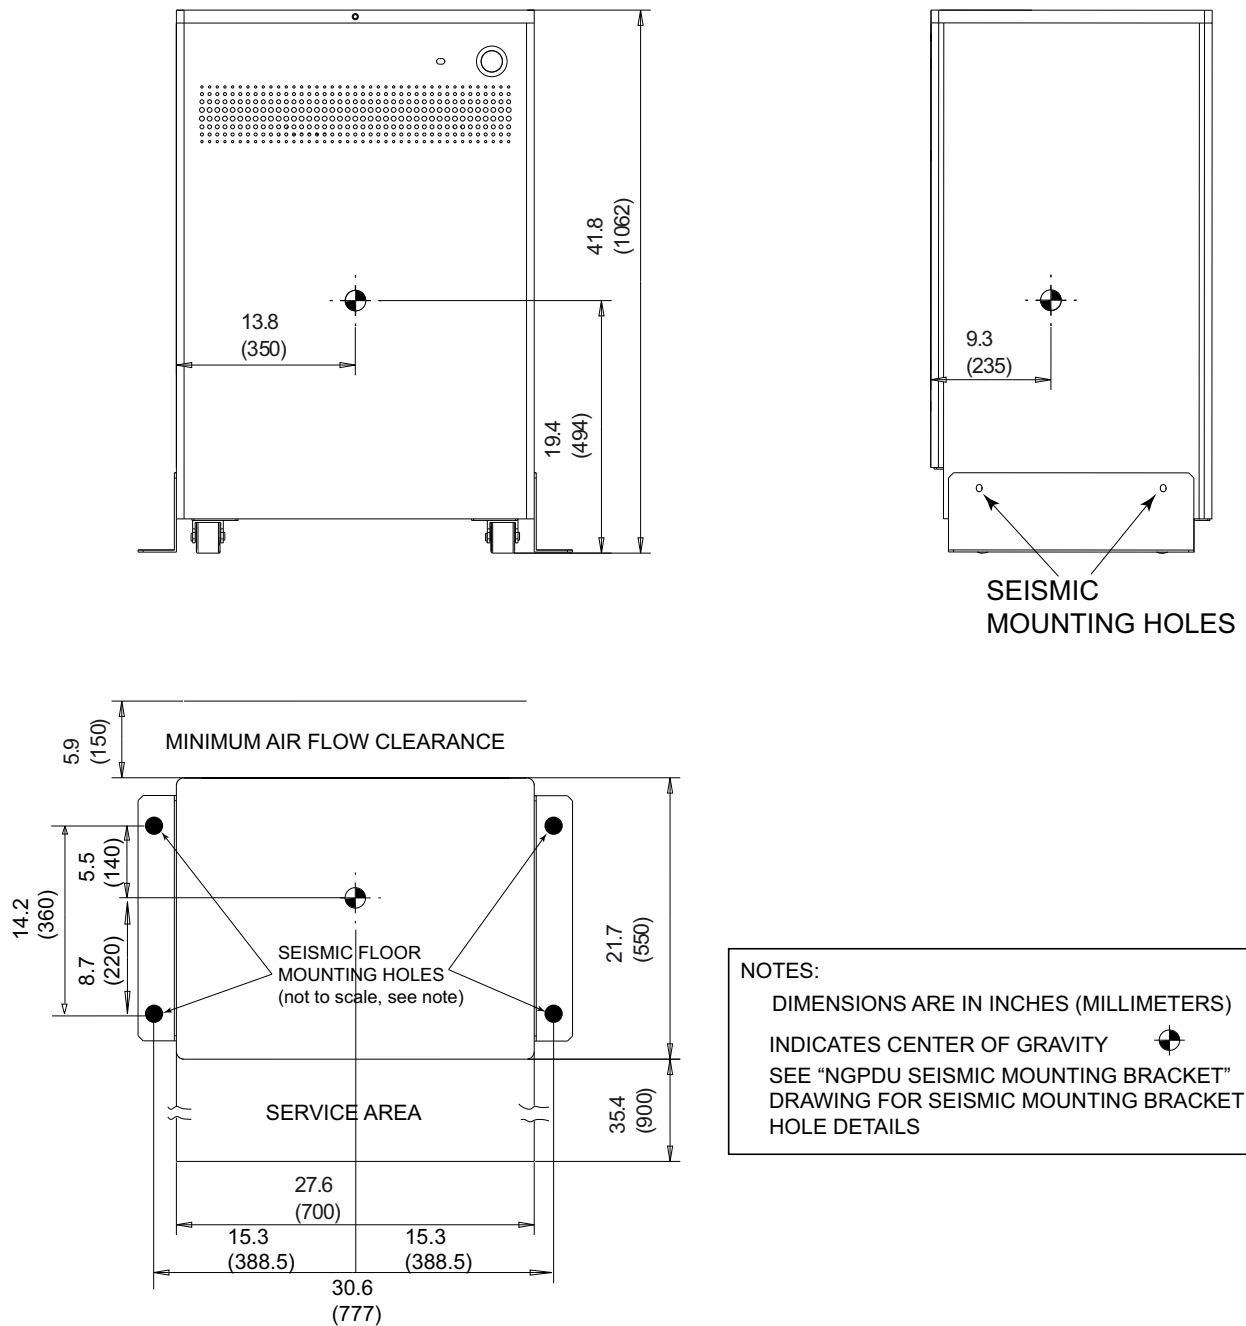

Figure 8-27 PDU Center-of-Gravity
- Power Distribution Unit: Figure 8-27 (PDU Seismic Mounting Bracket)